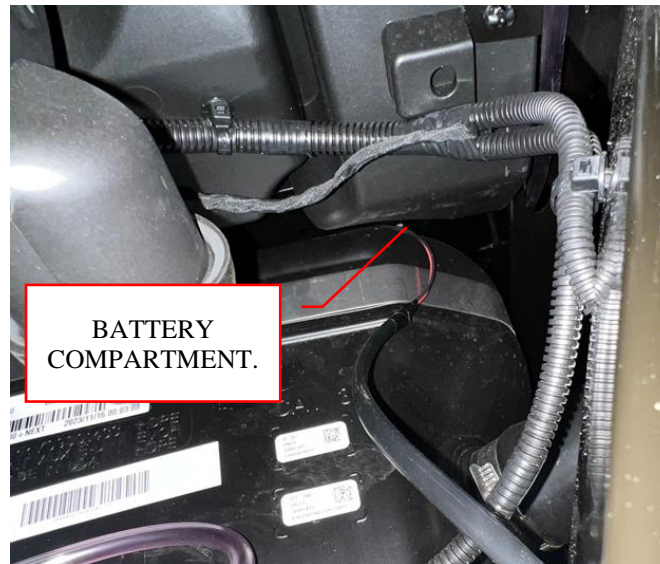

Figure 12: Run into battery compartment.
9. Pass the wire harness through the back wall and into the battery compartment and re-connect the harness once inside the battery compartment. See Figure 12.